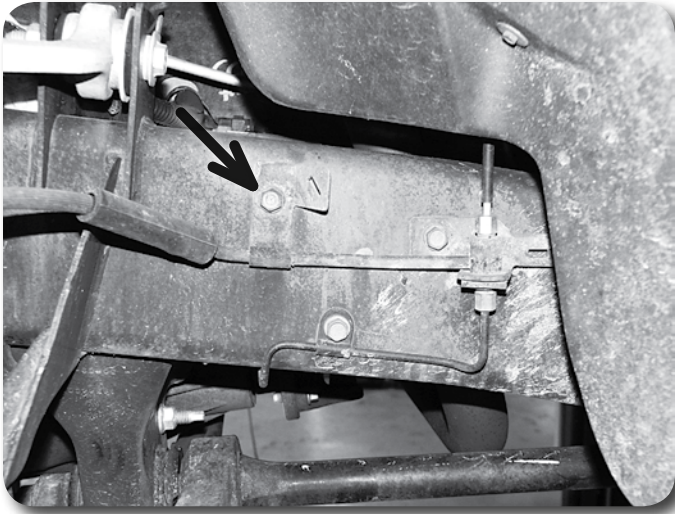
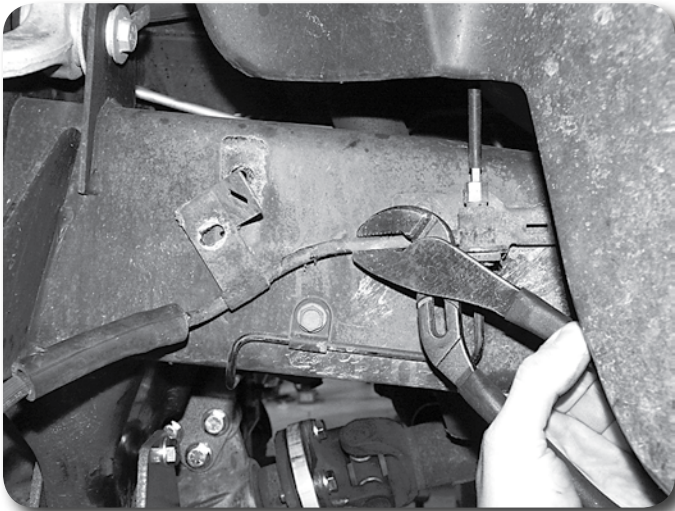

Figure 32A
Figure 32B
55. Driver's side brake line: Remove the bolt retaining the line bracket to the frame **Figure 32A**. Support the hard leader with pliers and carefully bend the line down approximately 30° **Figure 32B**. Mark and drill the new mounting location on the frame with a 17/64" drill. Fasten the bracket with the provided 5/16" x 1-1/4" self-tapping bolt.